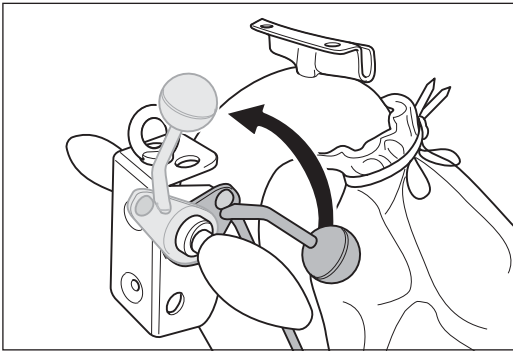

Fig. 74 Lift the sanding drum off the floor by turning the lowering lever at the handle upwards
During the test run, the sanding drum must be raised off the floor (fig. 74)!
- 1 Lift the sanding drum off the floor by turning the lowering lever at the handle upwards (fig. 74)!
- 1 **Lift the sanding drum off the floor by turning the lowering lever at the handle upwards (fig. 74)!**
- 1 Lift the sanding drum off the floor by turning the lowering lever at the handle upwards (fig. 74).